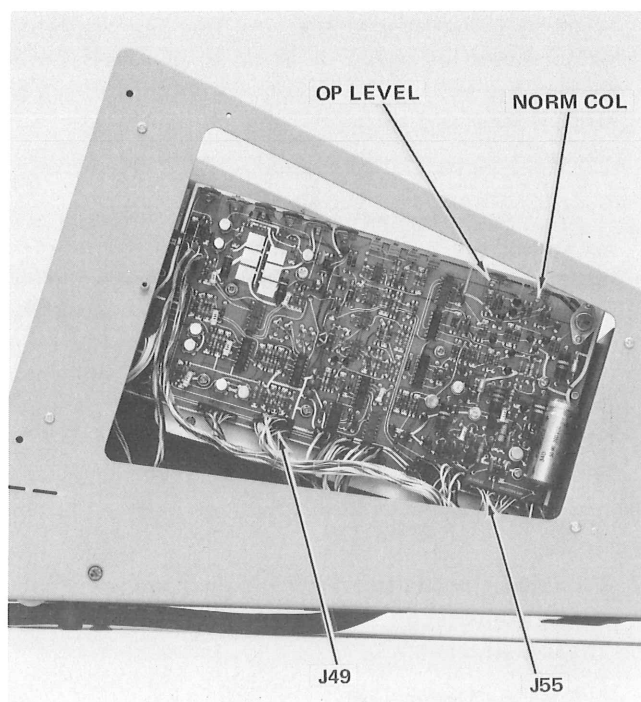

Fig. 4-9. High Voltage and Z Axis board.
a. Remove the right side cover from the display unit, after removing its two screws. See Fig. 4-9.
(1) Note the CE voltage value written on the tag attached to the top of the CRT shield in the display unit. Check for that value at pin 3 on J55 (Fig. 4-9), with the Terminal in View status. (Press SHIFT to regain View status.)
(2) Adjust NORM COLL (top of Deflection Amp & Storage board in the display unit, Fig. 4-9) to obtain the specified value at pin 3.
(3) Note the STORAGE LEVEL value written on the tag attached to the top of the CRT shield. Check for that value at pin 4 on J55 (Fig. 4-9).
(4) Adjust OP LEVEL (Fig. 4-9) to obtain the specified value.
(5) Put the LOCAL/LINE switch at LINE. Then go to step 6d.
(1) Note the CE Voltage value written on the tag supplied with the replacement CRT. Adjust NORM COLL to obtain that CE Voltage at pin 3 on J55. See Fig. 4-9.
(2) Connect the voltmeter to pin 4 of J55 on the Deflection Amp & Storage board (Fig. 4-9), expecting approximately +200 V DC.
(1) Connect the voltmeter to J55, pin 3 on the Deflection Amp & Storage board (Fig. 4-9), expecting about +100 V.
(2) Press PAGE and 8 to renew the display.
(3) Adjust NORM COLL in small increments pressing PAGE and 8 after each adjustment. Note the voltage at pin 3 and the effect on display uniformity.
(4) Select the position which provides the brightest display consistent with optimum uniformity and record the voltage. The best position usually occurs at a voltage slightly more positive than that which provides maximum display brightness. A too-positive voltage will often cause obvious streaking or shadows around some char-
d. Connect the oscilloscope probe to J49 pin 1 on the Deflection Amp & Storage board (Fig. 4-9). Set the oscilloscope sensitivity to 2 V/division and the sweep rate to 1 ms/division.